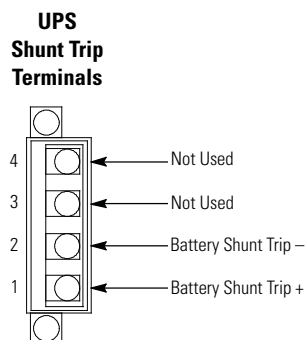

Figure 4-19. Battery Shunt Trip Terminal Assignments
11. Connect the wiring to the battery shunt trip terminals. See paragraph 3.2.4 and Table 4-3 for wiring and termination requirements, and Figure 4-19 for terminal assignments.